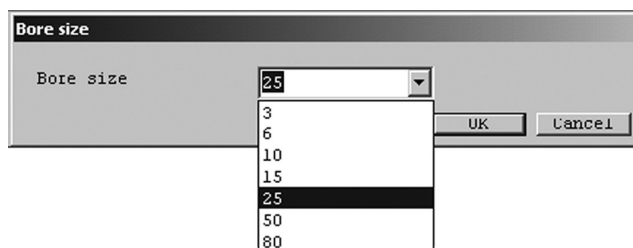

Fig.38
- ③ Click on the arrow mark at right and select from the drop-down list the bore size to be set as shown in Fig. 38.